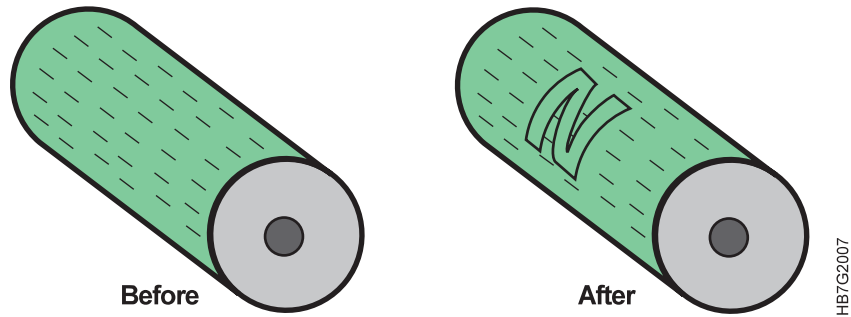

Figure 7. Image Formation
- 2 The printed image is formed by transmitting light on the drum's surface in the areas where the image should be and no light where the paper should remain white. In areas where the drum is exposed to light, the organic photoconductor layer becomes conductive, flows the charges to the ground, and forms a "latent electrostatic image," as shown in Figure 7 on page 11.